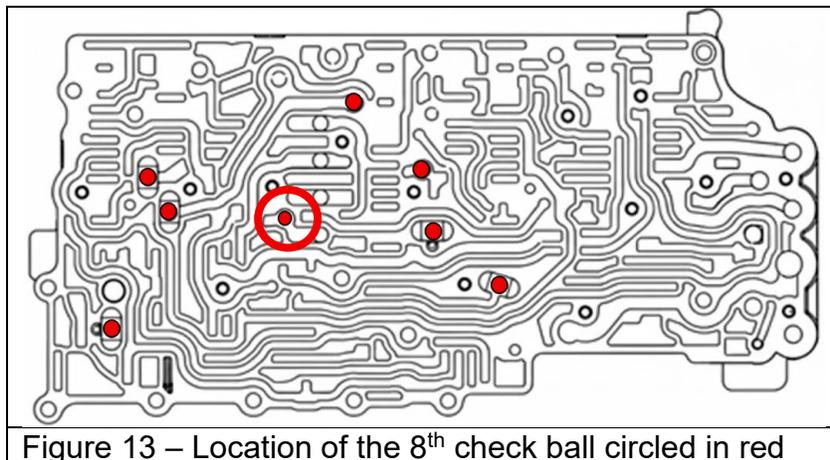

Figure 13 – Location of the 8th check ball circled in red
17. Install and verify that **ALL** eight new check balls are installed as shown in Figure 13.
**NOTE:** Earlier versions of the 6L90 transmission came equipped with seven check balls. Eight are now required as shown in Figure 13.